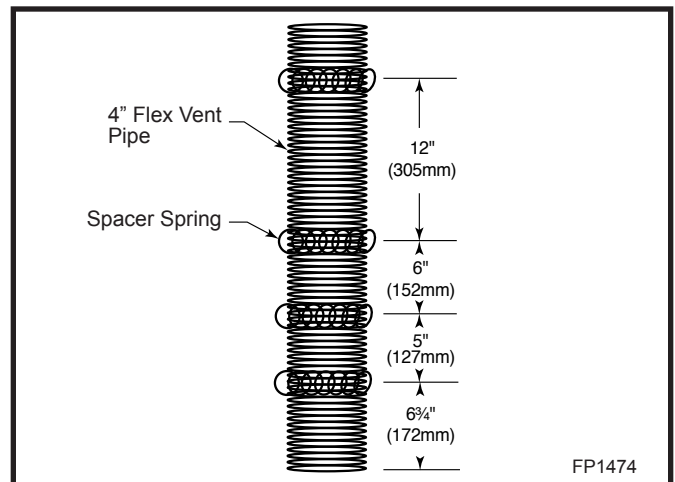

Fig. 26 Install spacer springs.
Install the four (4) spacer springs on the 4" flex vent pipe. When installing the spacer springs around the 4" pipe, stretch the spring to approximately 15" (381 mm), wrap the spring around the pipe and interlock the ends of the spacer spring approximately 2" (51 mm). Measure 6¾" (172 mm) from the end of the pipe. Place the next spring 5" (127 mm) from the previously installed spring. Place the next spring 6" (152 mm) from the last spring. Finally place the last spring 12" (305 mm) from the last spring installed. (Fig. 26)